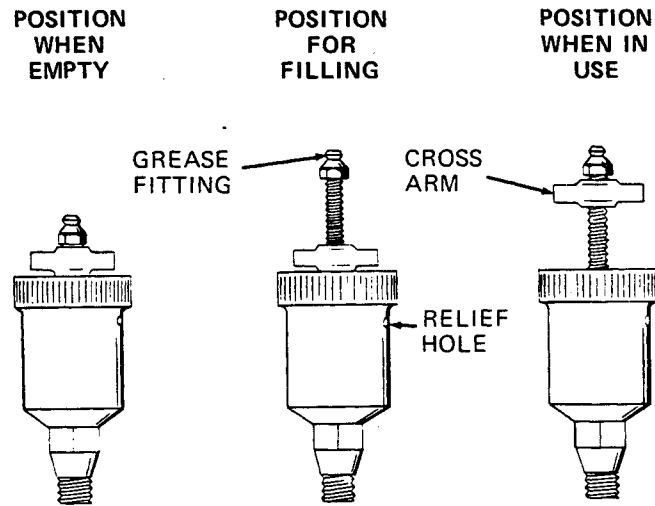

Figure 3. Automatic Lubricating Grease Cup
Before removing the seal assembly, turn the cross arm on the seal grease cup (19) clockwise until it rests against the cover (see figure 3). This will prevent the grease in the cup from escaping after the seal is removed.
Before starting the pump, fill the grease cup through the grease fitting with a good grade of No. 2 pressure gun grease until grease escapes from the relief hole. Turn the grease cup arm counterclockwise until it is at the top of the stem; this will release the spring to apply grease to the seal (see figure 3).